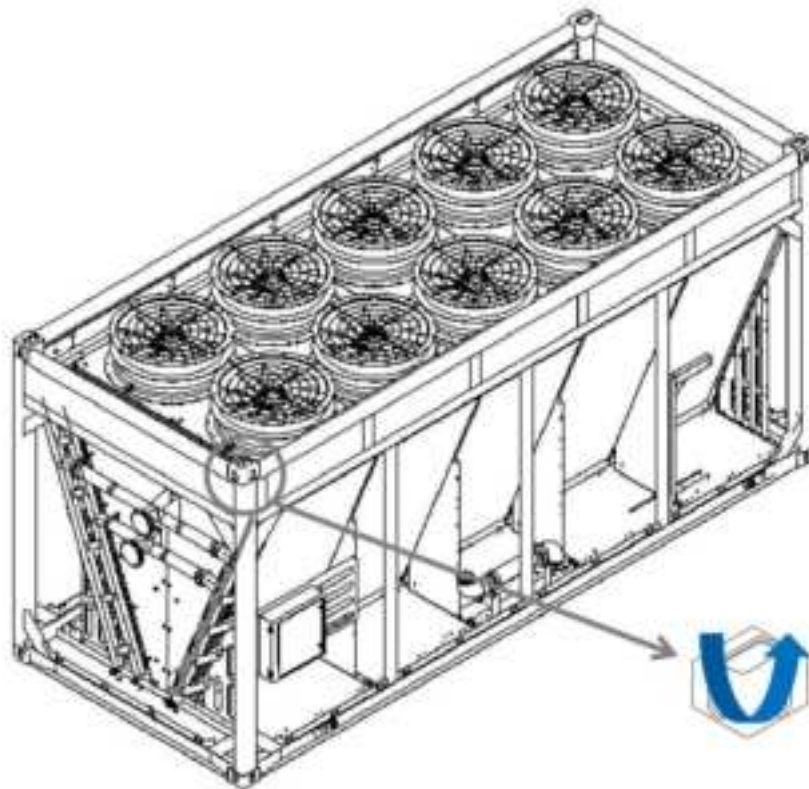

Figure 6-7 Lifting lug diagram
- Thread the sling through the four corner fittings below the unit, as shown in Figure 6-7.